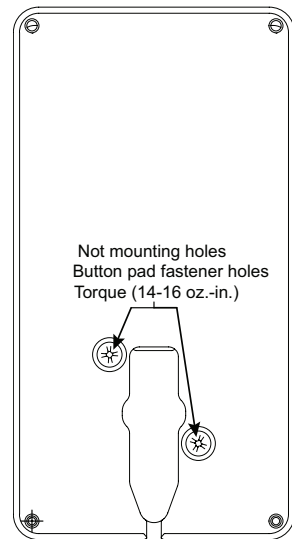

fig. 35
- a. Rotate the keypad after removing the two screws on the back of the 3H/3P display unit (fig. 35). Once they are removed, the keypad can be pulled out and rotated.